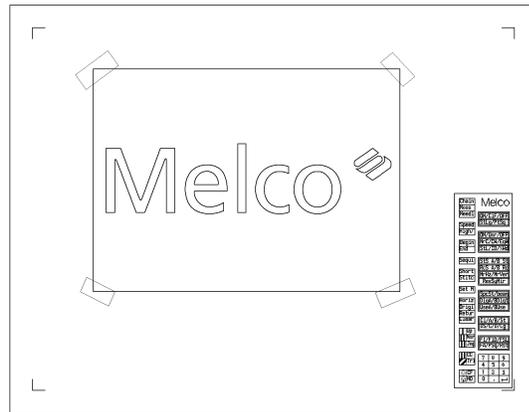

Figure 2-2
1. To perform the first practice digitizing session in the next chapter, locate the "Melco" artwork in the back of the manual and place it on the "active area" of the digitizer tablet (see Figure 2-2).